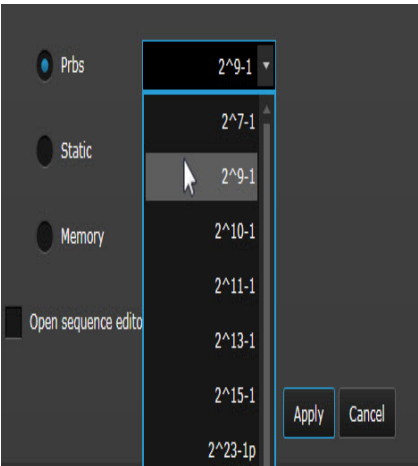

Figure 38 Select Polynomial
- b In the **Block Data** properties, select **2^9- 1** as the **Polynomial** as shown in Figure 38 on page -85.